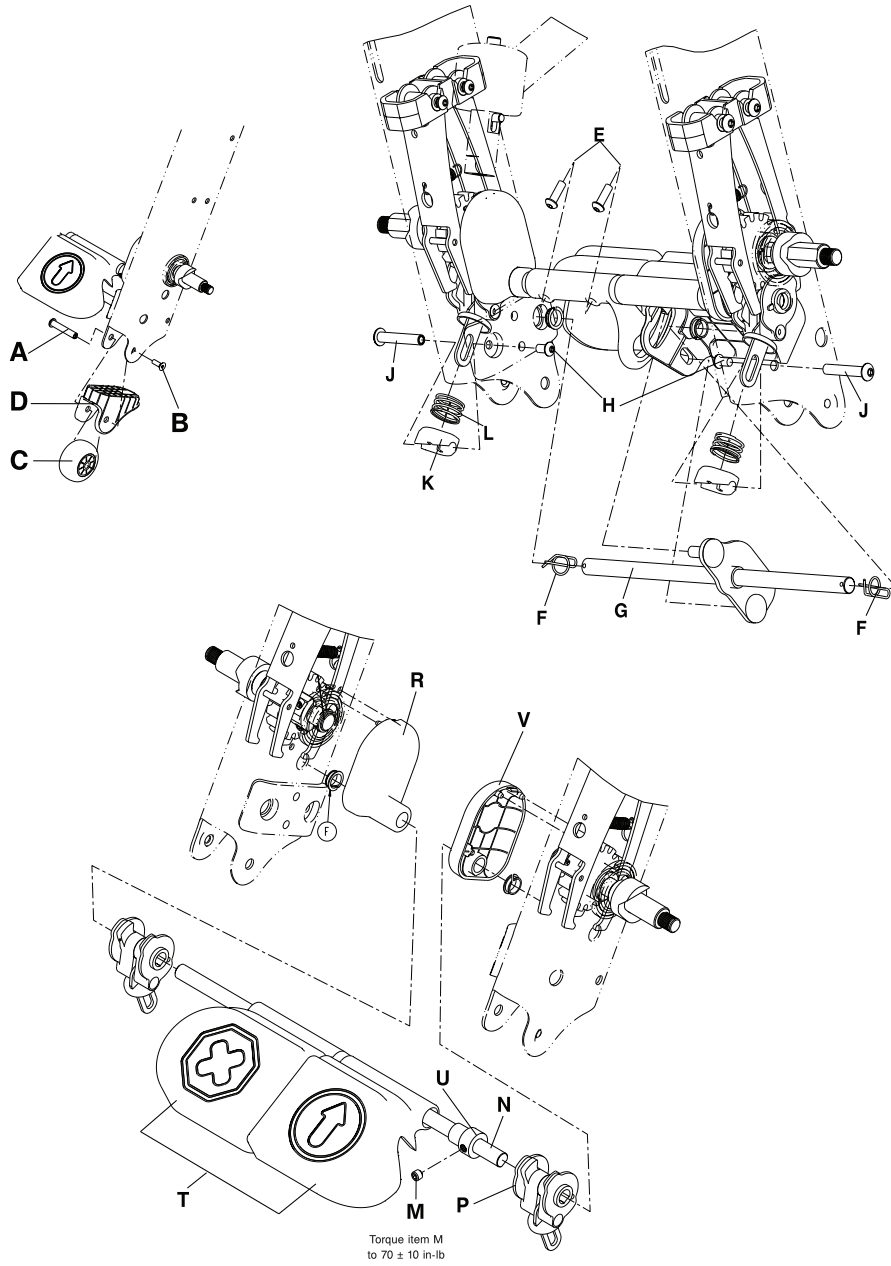

Figure 1-29: Pedal replacement
3. Using a 5/32" hex wrench and a 3/16" hex wrench, remove the anti-tip wheel spacer nut (A) and flange head cap screw (B) that secure the anti-tip wheel (C) and lower frame cover (D) to the chair frame (Figure 1-29 on page 1-46). Save all parts.
5. Using a 5/32" hex wrench, remove the two button head cap screws (E) on the bottom of the go pedal. Save the screws (Figure 1-29 on page 1-46).
6. Using needle nose pliers, remove the rue ring cotter (F) on both ends of the toggle link rod (G). Save the rue ring cotters (Figure 1-29 on page 1-46). When reinstalling the screws, use a 3/8" drive torque wrench to torque the screws to 70 ± 10 in-lb.
7. Remove the toggle link rod (G) (Figure 1-29 on page 1-46).
8. Using a 5/32" hex wrench and a 3/16" hex wrench, loosen the button head cap screw (H) that secures the brake cam spring pad (K) to the chair frame (Figure 1-29 on page 1-46).
**Note:** Do not remove the brake finger spacer nut (J).
9. Use your hand to push on the brake cam spring pad (K) (Figure 1-29 on page 1-46) to relieve pressure from the brake finger spacer nut (J). Remove and save the brake finger spacer nut and screw.
10. Carefully remove the brake cam spring pad (K) and brake cam spring (L) (Figure 1-29 on page 1-46). Save the pad and spring.
12. Using a 5/32" hex wrench, remove the collar set screw (M) (Figure 1-29 on page 1-46). Save the set screw. When reinstalling the set screw, use a 3/8" drive torque wrench to torque the screw to 70 ± 10 in-lb.
13. Push the brake cross bar (N) toward the occupant left side until the bar no longer touches the occupant right side brake cam assembly (P) (Figure 1-29 on page 1-46). Remove the occupant right side brake cam assembly (P) (Figure 1-29 on page 1-46). Save the assembly.
14. Push the brake cross bar (N) toward the occupant right side and remove the brake cross bar (N) (Figure 1-29 on page 1-46). Save the bar.
- a. As the brake cross bar (N) is being removed, carefully remove the following parts in the order shown (Figure 1-29 on page 1-46):
- i. Left brake shaft cover (R)
- ii. Brake pedal assembly (T)
- iii. Collar (U)
- iv. Right brake shaft cover (V)
**Note:** Note the orientation of the brake cam assembly (P). Make sure that the tab faces the front of the chair (Figure 1-29 on page 1-46).
**Note:** When reinstalling the brake cam assembly (P) (Figure 1-29 on page 1-46), make sure that the tab faces the front of the chair.